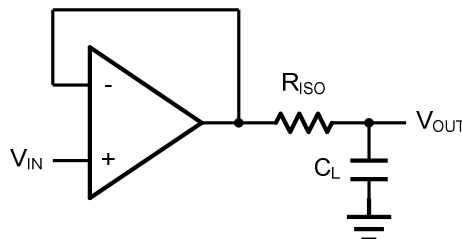
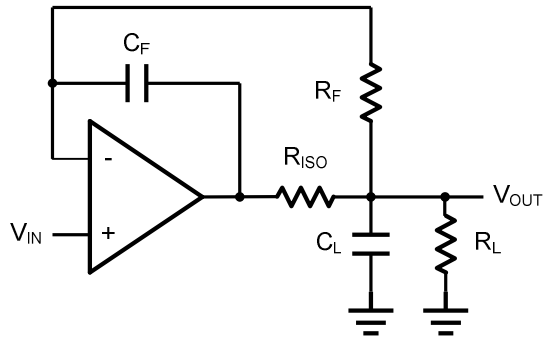

Figure 2. Indirectly Driving a Capacitive Load Using Isolation Resistor
Figure 3. Indirectly Driving a Capacitive Load with DC Accuracy
The LMV602 is optimized for bandwidth and speed, not for driving capacitive loads. Output capacitance will create a pole in the amplifier's feedback path, leading to excessive peaking and potential oscillation. If dealing with load capacitance is a requirement of the application, the two strategies to consider are (1) using a small resistor in series with the amplifier's output and the load capacitance and (2) reducing the bandwidth of the amplifier's feedback loop by increasing the overall noise gain. Figure 2. shows a unity gain follower using the series resistor strategy. The resistor isolates the output from the capacitance and, more importantly, creates a zero in the feedback path that compensates for the pole created by the output capacitance.
The circuit in *Figure 3* is an improvement to the one in *Figure 2*.  $R_F$  provides the DC accuracy by feed-forward the  $V_{IN}$  to  $R_L$ .  $C_F$  and  $R_{ISO}$  serve to counteract the loss of phase margin by feeding the high frequency component of the output signal back to the amplifier's inverting input, thereby preserving the phase margin in the overall feedback loop. Capacitive drive can be increased by increasing the value of  $C_F$ . This in turn will slow down the pulse response.